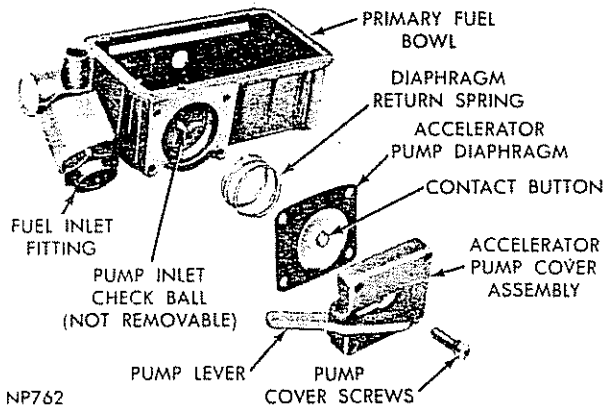

FIG. 30 — ACCELERATOR PUMP, DISASSEMBLED BALL CHECK VALVE
9. Remove screws attaching accelerator pump cover to fuel bowl. Remove cover and carefully remove pump diaphragm and spring (Fig. 30).